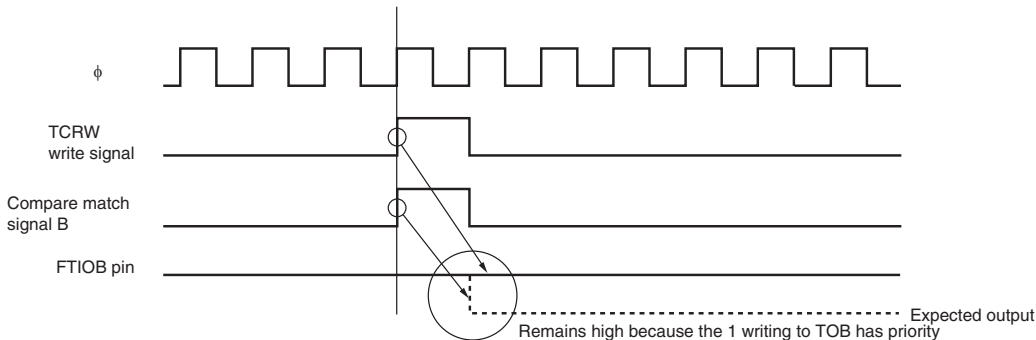

Figure 12.26 When Compare Match and Bit Manipulation Instruction to TCRW Occur at the Same Timing
- The TOA to TOD bits in TCRW decide the value of the FTIO pin, which is output until the first compare match occurs. Once a compare match occurs and this compare match changes the values of FTIOA to FTIOD output, the values of the FTIOA to FTIOD pin output and the values read from the TOA to TOD bits may differ. Moreover, when the writing to TCRW and the generation of the compare match A to D occur at the same timing, the writing to TCRW has the priority. Thus, output change due to the compare match is not reflected to the FTIOA to FTIOD pins. Therefore, when bit manipulation instruction is used to write to TCRW, the values of the FTIOA to FTIOD pin output may result in an unexpected result. When TCRW is to be written to while compare match is operating, stop the counter once before accessing to TCRW, read the port 8 state to reflect the values of FTIOA to FTIOD output, to TOA to TOD, and then restart the counter. Figure 12.26 shows an example when the compare match and the bit manipulation instruction to TCRW occur at the same timing.